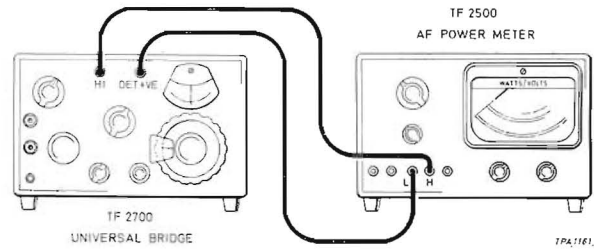

Fig. 4.3 Power meter impedance check
- (1) Connect the test equipment as shown in Fig. 4.3.